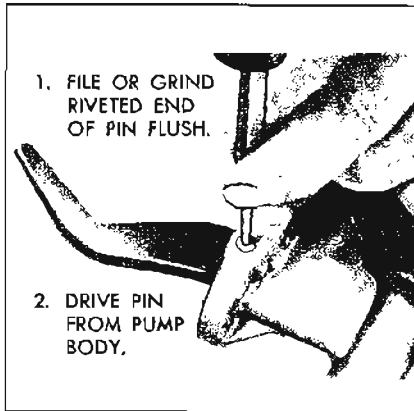

Figure 3-20—Removing Rocker Arm Pin
1. File or grind riveted end of rocker arm pin flush with steel washer, or cut off end with a 3/8" drill. Then drive pin out with a drift punch and hammer. See Figure 3-20.